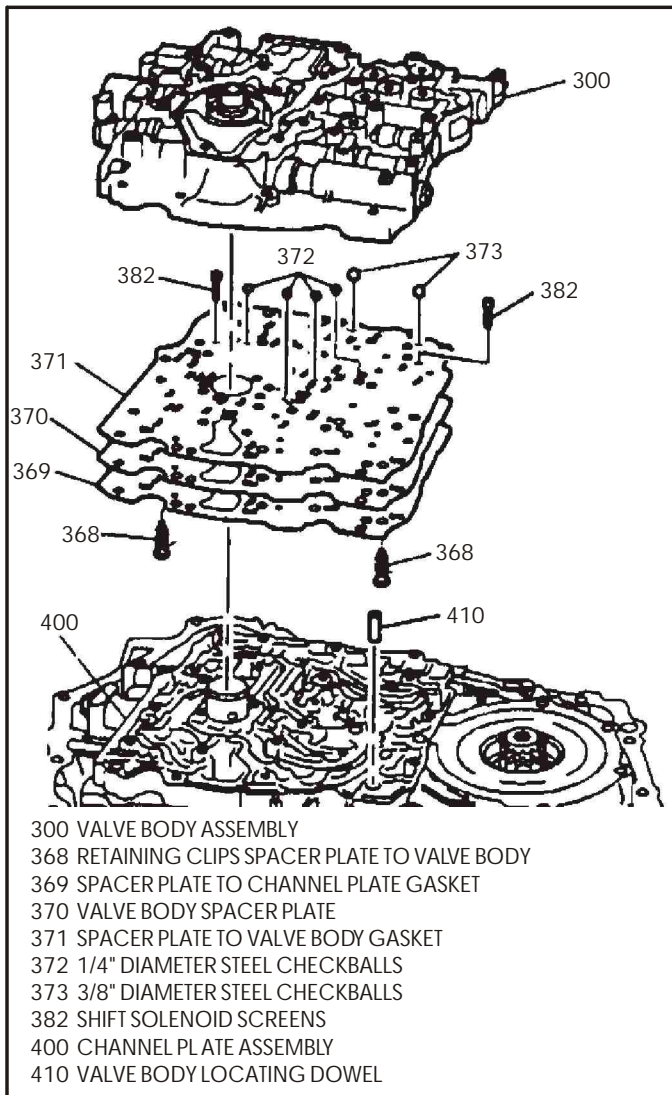

Figure 51
13. Remove the valve body from the transaxle ,as shown in Figure 51. The spacer plate and the spacer plate gaskets will come with the valve body, as they are retained by the plastic clips (368) shown in Figure 51.
15. Remove the four 1/4" and the two 3/8" balls from the valve body (See Figure 51).
16. Remove the hollow valve body locating dowel (410) from channel plate (See Figure 51).